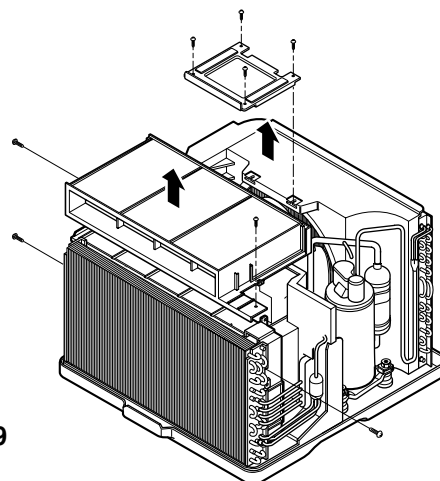

Figure 19
7. Remove the air guide upper. (See figure 19)